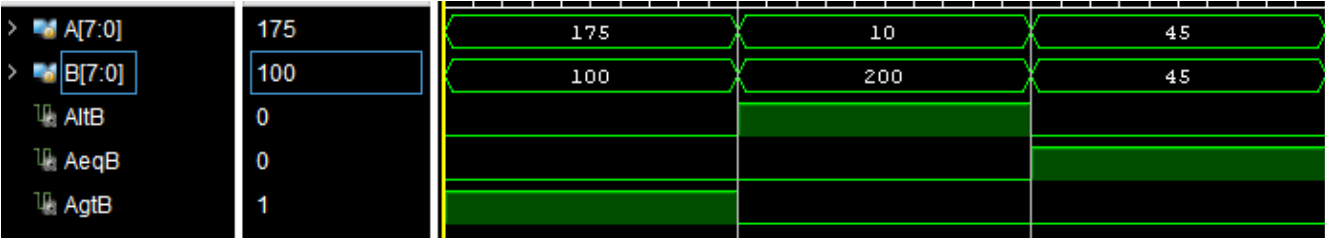

**Figure 2: State diagram of Controller**
- 7) **(12 points) Write Verilog code (behavioral way) for Controller.** See its state diagram in **Figure 2 (page 5).**